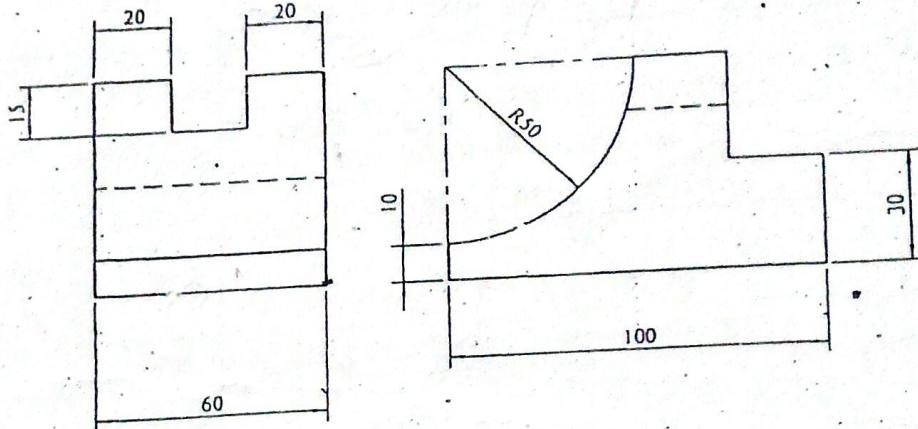

Figure 1
1. Orthographic views of an object are shown in Figure 1. Draw its isometric view. [10]
2. A solid cube having 50mm sides, is resting with it's flat base on the ground plane. Draw its angular perspective view with it's vertical faces equally inclined to the picture plane (PP) and the nearest vertical edge is touching the PP. The station point is 80mm above ground level, 40mm away from the PP and the central plane passes from the centre of the solid cube. [5]